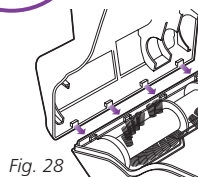

Fig. 28
- 3 To reassemble, insert the tabs on the front edge of the bottom cover into the matching holes in the top half and tilt it back down until it clicks into place. **(Fig. 28)**